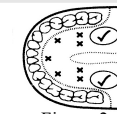

Figure 2
a) **Oral Use:** Place thermometer under tongue as indicated by "√" position shown in Figure 2. Close your mouth and breathe evenly through the nose to prevent the measurement from being influenced by inhaled/exhaled air. Normal temperature between 96.3°F and 99.1°F (35.7 °C and 37.3 °C)